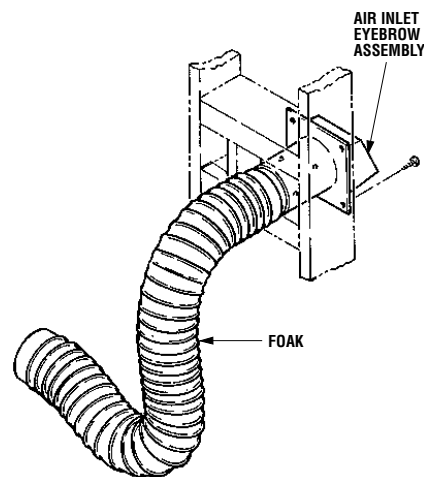

Figure 41
Step 2. Install the air inlet eyebrow (FOAK-4 or FOAK-4LD) through the wall opening (Figure 41). Push a 4 inch diameter NON-COMBUSTIBLE Class 0 or Class I flexible duct onto the eyebrow.